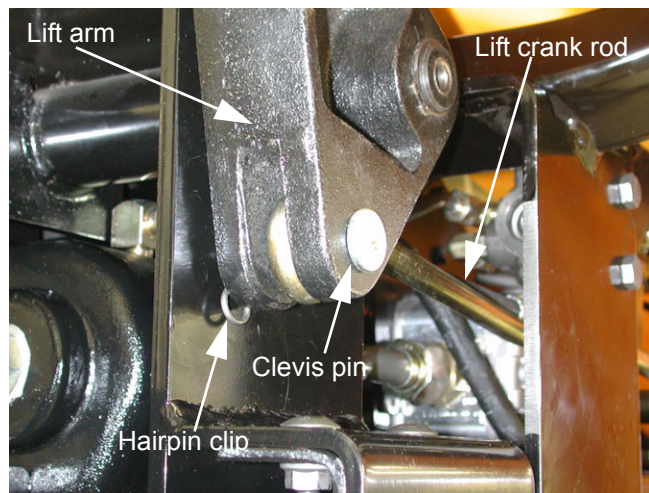

Figure 1.12
- 1.12. Attach the lift rod crank to the rear lift arm with a clevis pin. The clevis pin should be oriented so that the hairpin clip that secures it is on the inside of the arm. See Figure 1.12.